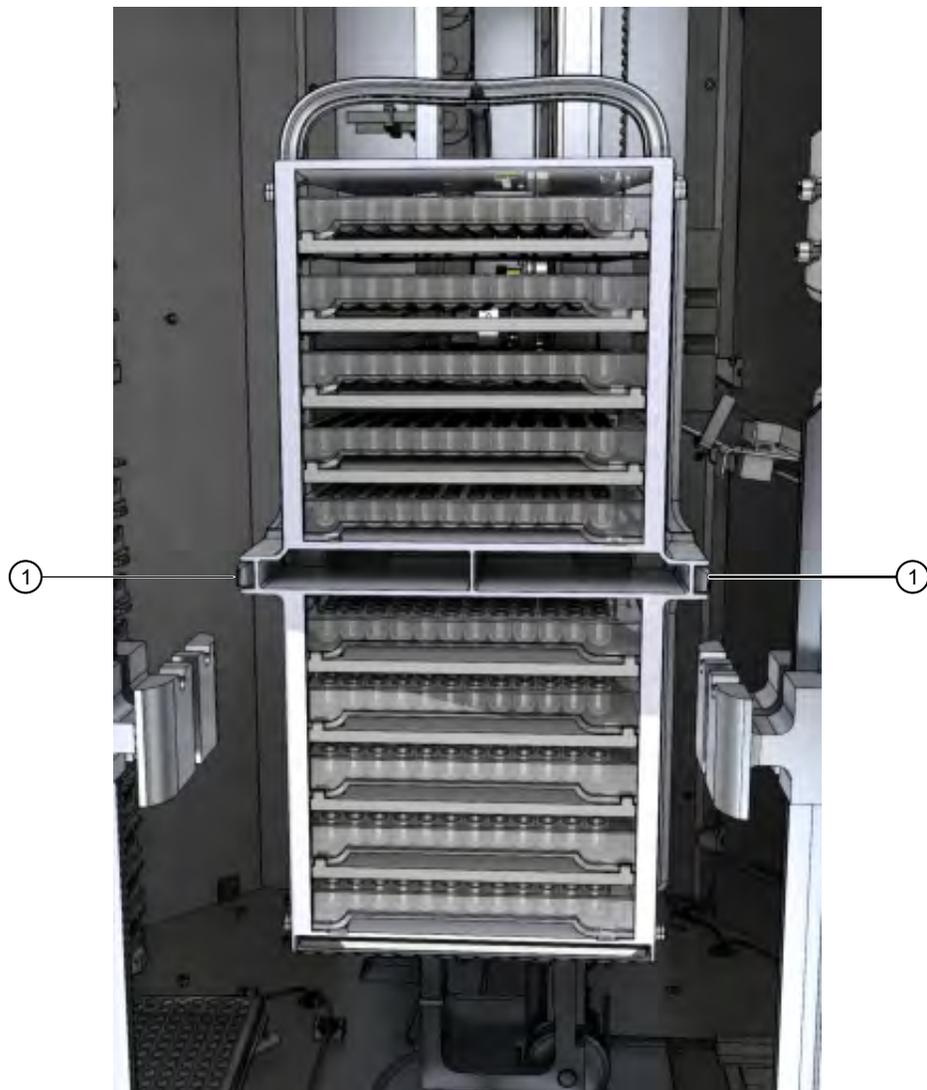

Figure 37 Wide arm gripper holding a rack
4. Find the wide pair of grippers on the transfer arm assembly. See Figure 37 on page 93 to help identify the grippers.